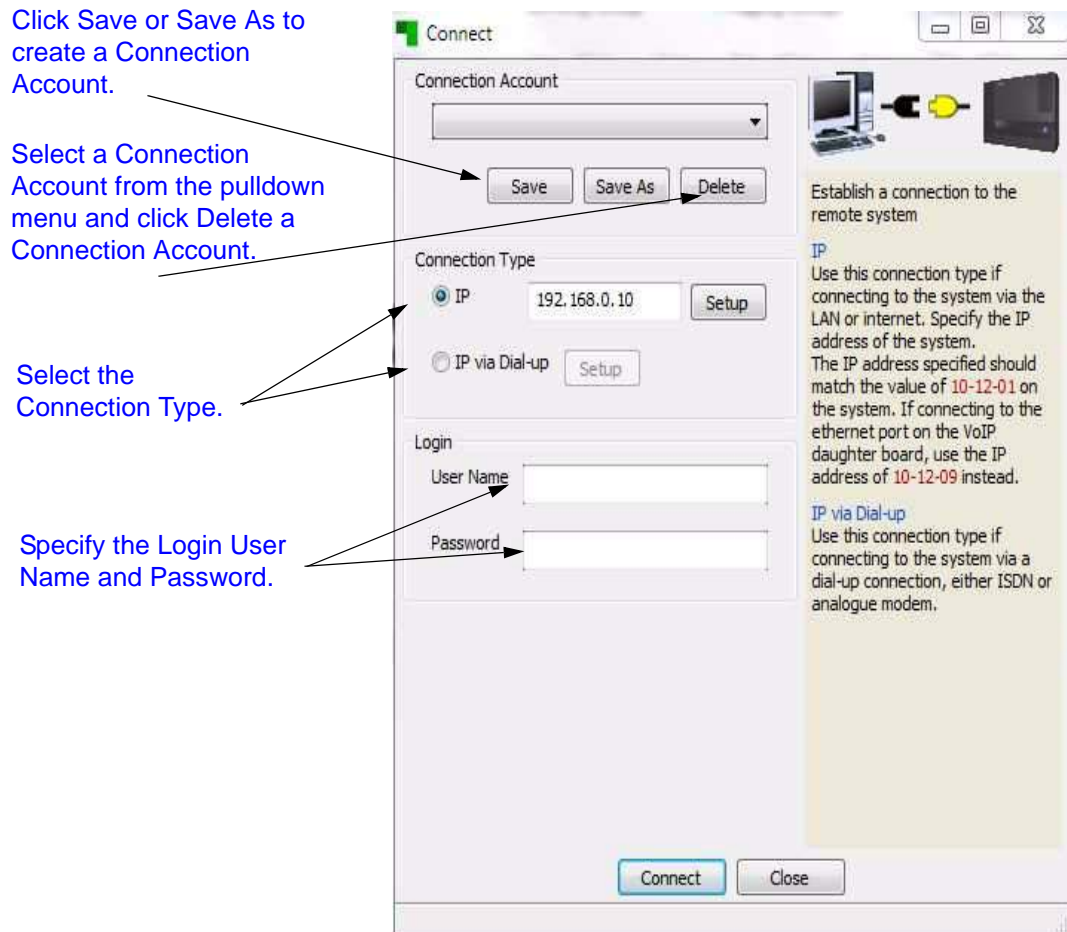

Figure D-1 Connect Dialog Creating/Deleting Connection Account
This section describes how to use the Connect dialog to create a new Connection Account or delete an existing Connection Account. (Refer to Figure D-1 Connect Dialog Creating/Deleting Connection Account on page D-2.)
1. Select the **Connection Account** from the pulldown menu on the Connect dialog. (Refer to Figure D-1 Connect Dialog Creating/Deleting Connection Account on page D-2.)